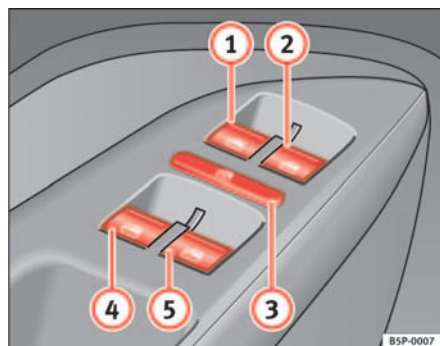

Fig. 71 Section of the driver door: controls for the front and rear windows
The buttons ⇒ page 104, fig. 71 ① and ② have two levels for opening the window and two for closing it. This makes it easier to open or close windows to the desired position.